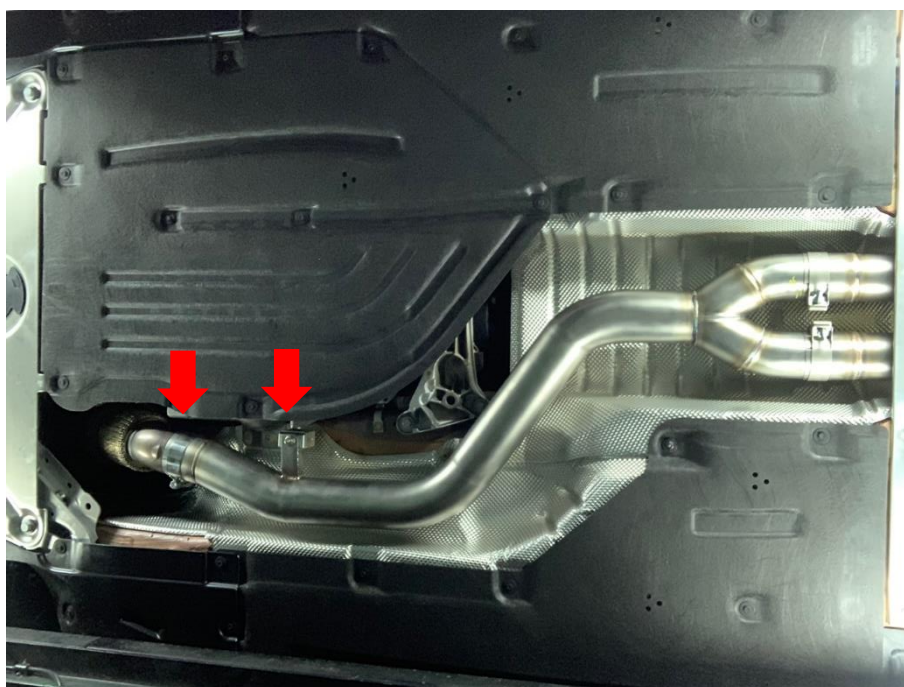

Fig. 6
2. Install the iPE front pipe and screw the bushes and clamps. (Fig6)